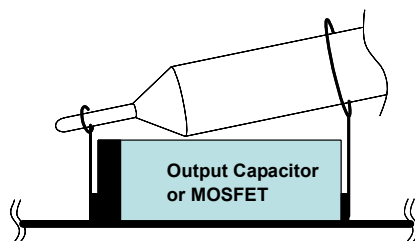
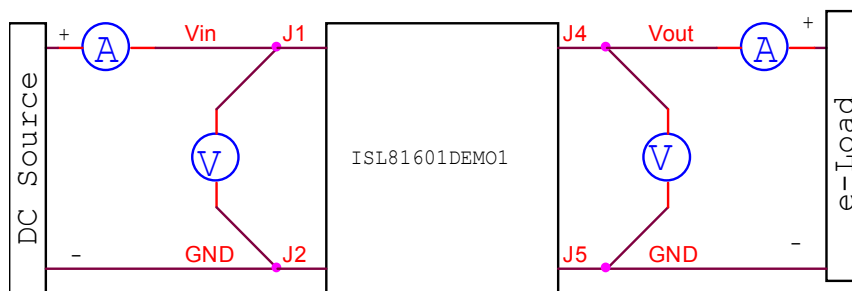

Figure 6. Proper Probe Set-Up to Measure Output Ripple and Phase Node Ringing
Figure 7. Proper Test Setup
As shown in Figure 7 on page 7, 32V to 60V V_{IN} is supplied to J₁ (+) and J₂ (-). The regulated 48V output on J₄ (+) and J₅ (-) can supply up to 10A to the load. Due to the high power efficiency, the demonstration board can run at 5A continuously without airflow at room temperature ambient conditions.
- (1) Jumper J₈ provides the option to select PWM or DEM. Jumper J₉ provides the option to select Constant current limit or HICCUP. Refer to Table 3 for the operating options. Ensure that the circuit is correctly connected to the supply and electronic loads prior to applying any power. Refer to Figure 7 for proper setup.
- (2) Turn on the power supply.
- (3) Adjust input voltage V_{IN} within the specified range and observe the output voltage. The output voltage variation should be within 3%.
- (4) Adjust the load current within the specified range and observe the output voltage. The output voltage variation should be within 3%.
- (5) Use an oscilloscope to observe output voltage ripple and phase node ringing. For accurate measurement, refer to Figure 6 for proper test setup.